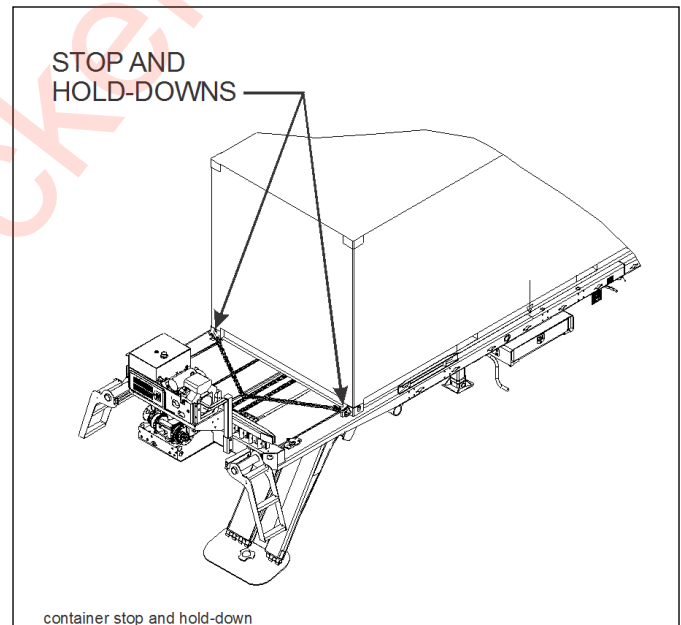

**Figure 3-5: Loaded Container w/Rear Foot**
- h. Stop the container a couple of feet behind the stops so the rear feet can be installed into the bottom of the container corner castings. **(See Figure 3-5.)**